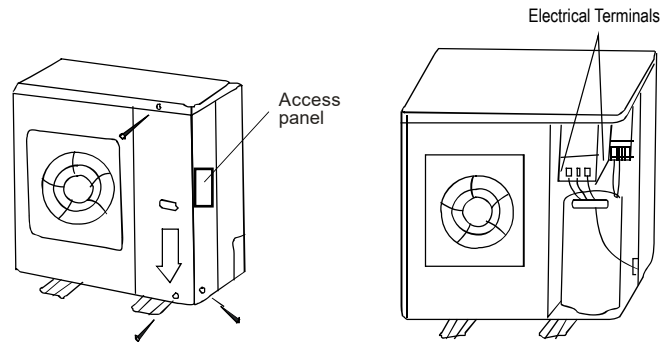

Fig.13-1
- Undo the screws of the access panel cover of the outdoor unit. Pull in the direction of the arrow to pull the access panel down and then out to remove the access panel. This allows access to the compressor compartment and electrical board. (Refer to Fig.13-1)
Fig.13-1 is indicative only, based on one type of outdoor unit. Actual unit supplied may be different.